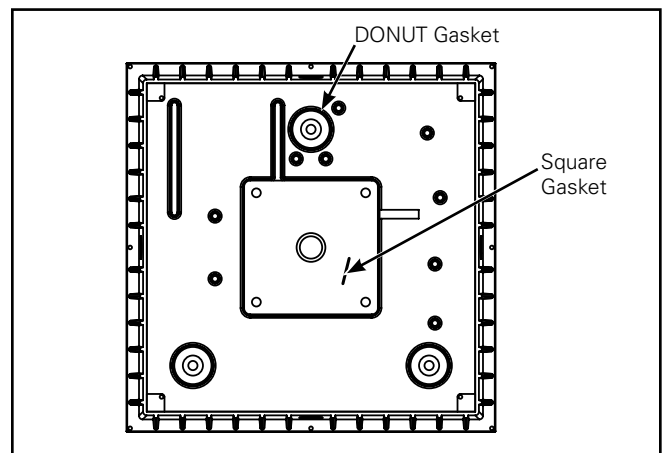

Figure 8.
- Peel the backing from each of the three donut gaskets and apply them to the back side of the cast housing at each of the three mounting holes (gasket has adhesive on one side). Use the square gasket to seal cast housing to J-Box (Figure 8).